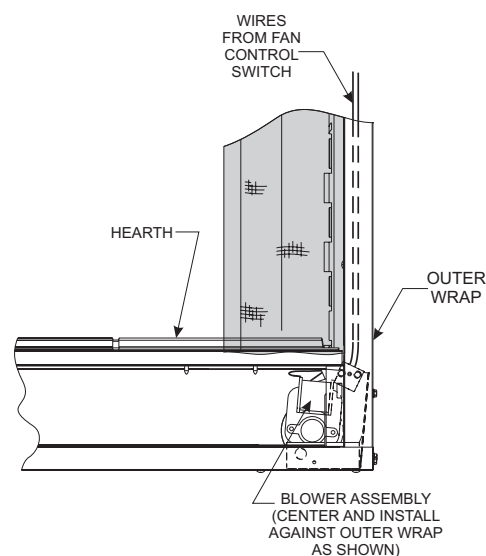

Figure 20
4. Insert blower assembly into interior, bottom of firebox. Position blower assembly so that you align the notch on back of blower assembly with the center screw on side/end panel, then push the blower assembly against firebox outer panel. The blower wheel must be centered with the side/end wall of the firebox. The magnets on the back and bottom of blower assembly will sufficiently hold blower assembly in place. **See Figure 20.**
7. The fan control wires will slide down between the firebox and outer wrap near the blower assembly. **See Figure 20.**
11. To complete the installation, plug the power cord into the junction box receptacle previously installed in the bottom of the firebox. **See Figures 20 and 22.**